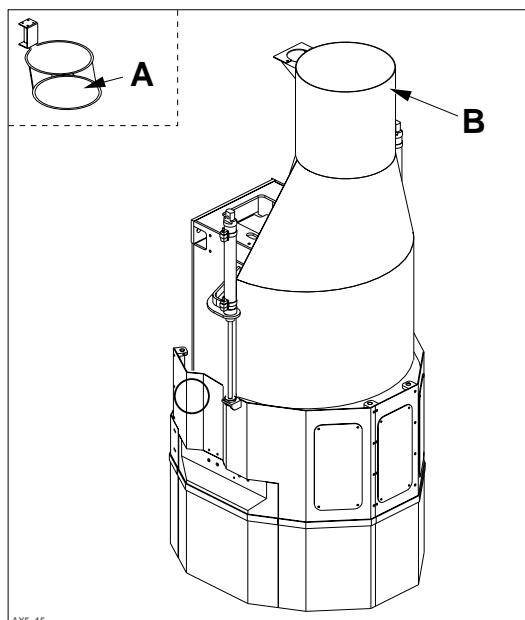

Fig. 2.20
Insert the flexible tubes of the suctions in the driving rings A (Fig 2.20) and link them to the operating groups:
- Electro spindle: connect a hose 250mm in diameter from the vacuum system to the manifold B (Fig.2.20) and fix it in place with a Jubilee clip.